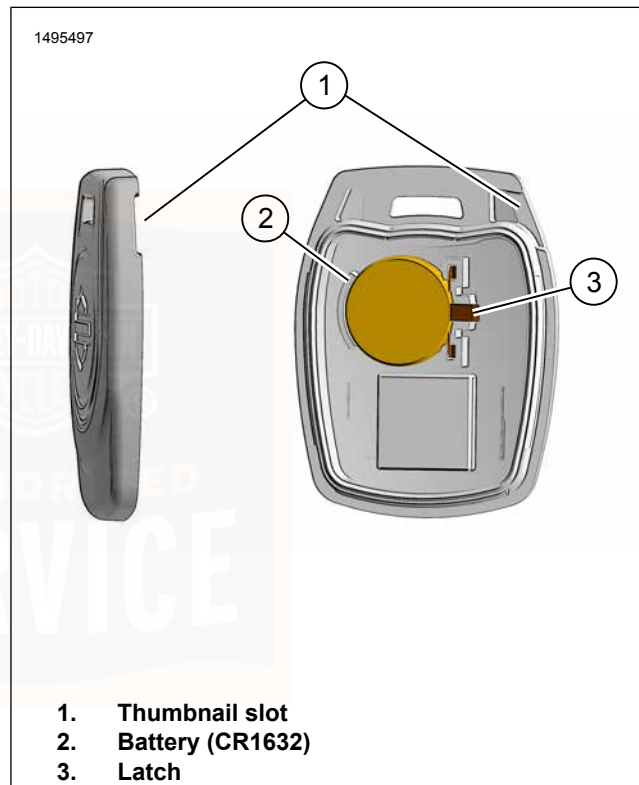

Figure 23. Replace Fob Battery
- See Figure 23. The serial number of the fob is also found on the inside of the fob.
1. See Figure 23. To open the fob, turn a thin blade in the slot (1).
2. Remove the battery (2) and discard in accordance with local regulations.